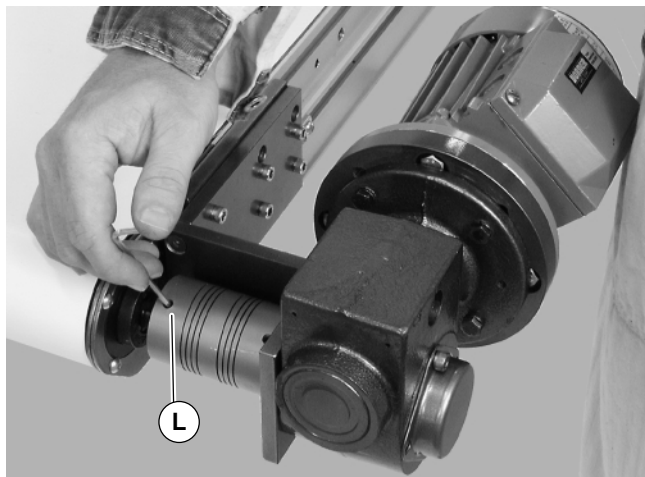

Figure 8
6. Jog motor and rotate coupling to gain access to set screw (L of Figure 8). Tighten to 3.7 Nm. Repeat for second set screw.
2. Jog motor and rotate coupling to gain access to set screw (L of Figure 8). Loosen set screw. Repeat for second set screw.